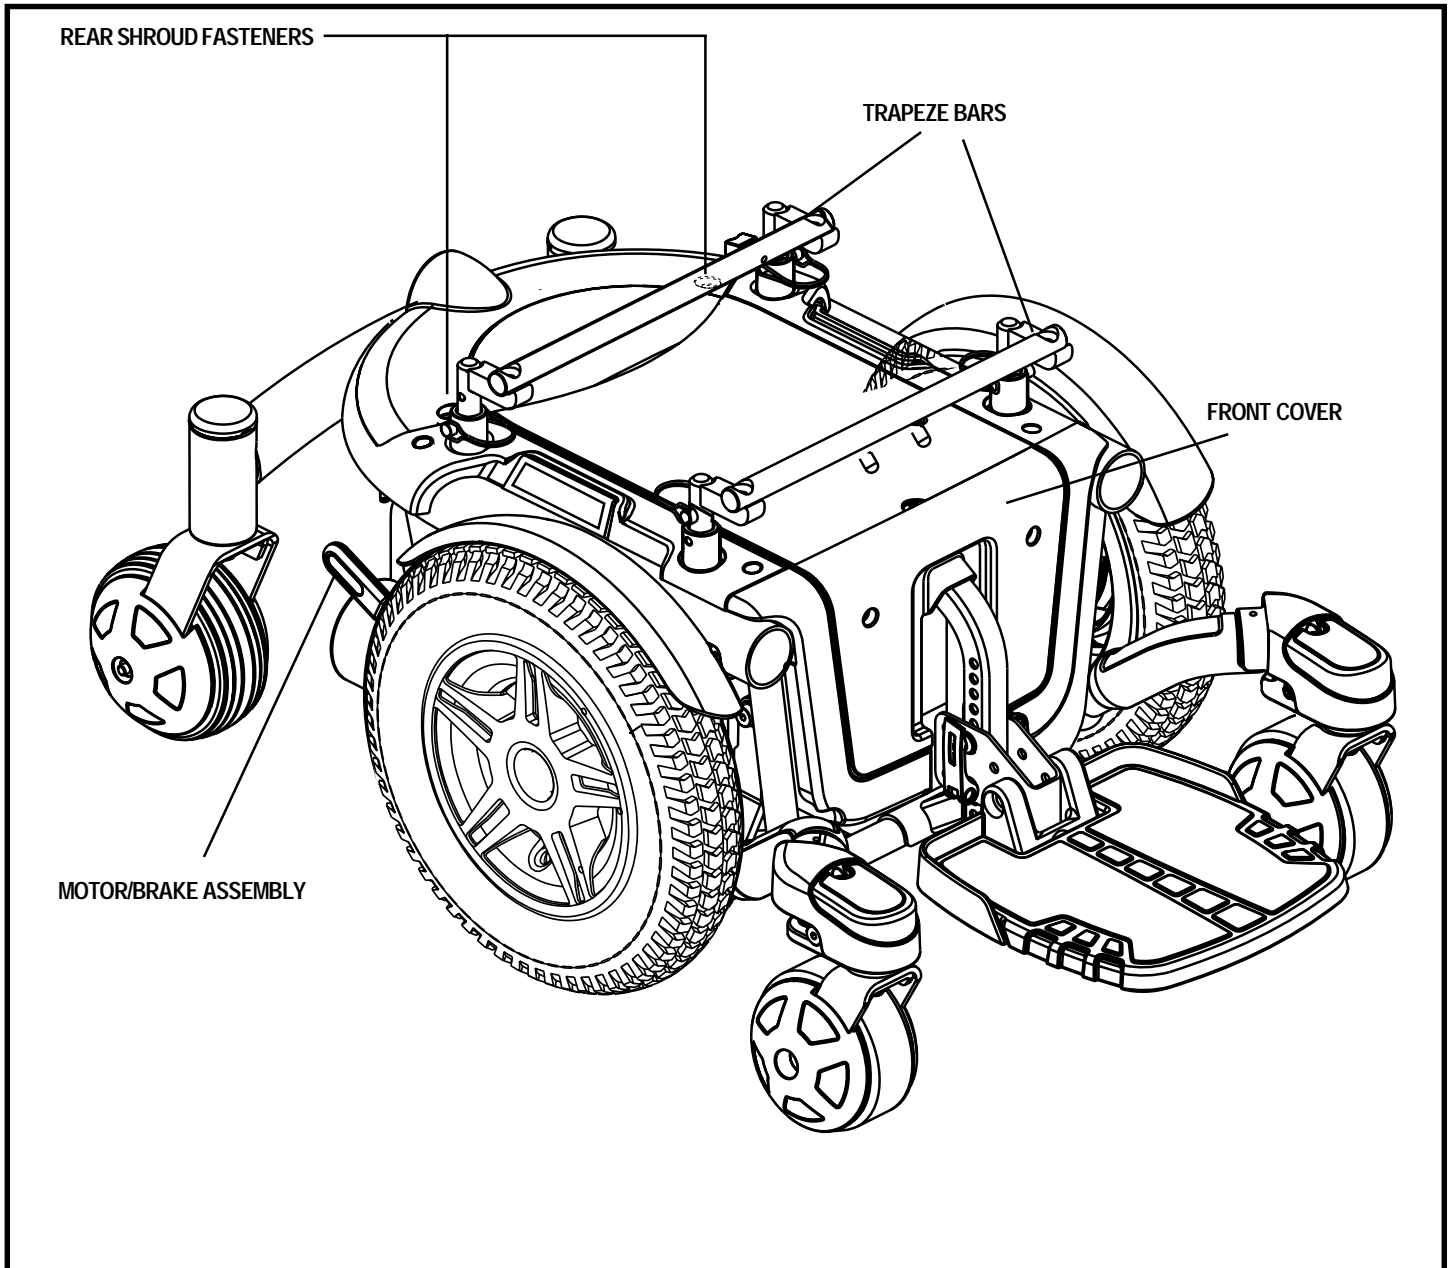

Figure 6. The Quantum 600 XL Power Base
5. Turn the rear shroud fasteners one-quarter turn in any direction and remove the rear shroud. See figure 6.
7. Replace the rear shroud and tighten the rear shroud fasteners. See figure 6.
2. Loosen the rear shroud fasteners and remove the rear shroud cover. See figure 6.